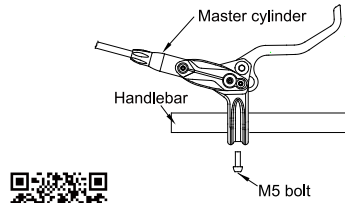

FIG.1
- 2-1 Mounting the master cylinder/brake lever on the handlebar with M5 screw bolt. Adjust its appropriate angle and position, then tighten it at a torque of 4-6Nm(35~53 in. lbs) (as shown in Figure 1).